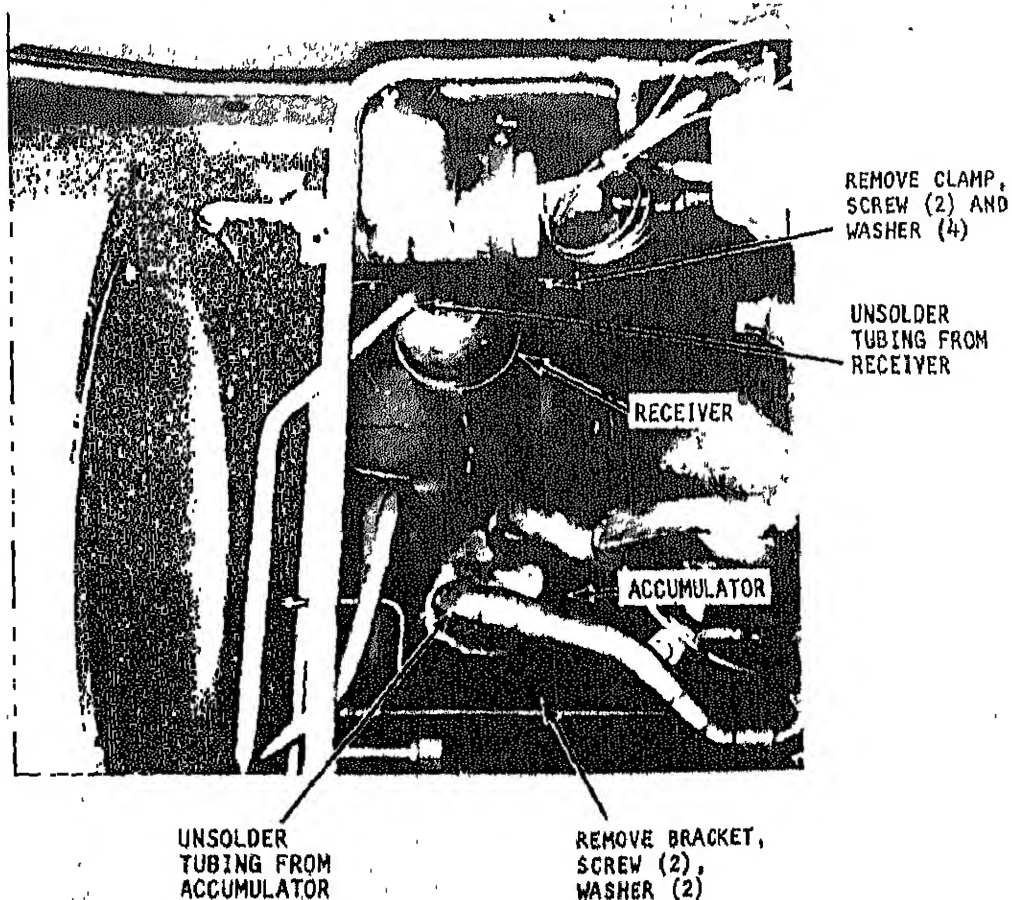

Figure 5-8. Receiver and accumulator, removal and installation
(4) Refer to figure 5-8 and remove receiver mounting bracket.
(5) Unsolder receiver from refrigeration system tubing.
(1) Refer to figure 5-8 and mount receiver on compartment wall.
(4) Refer to figure 5-8 and unsolder system tubing from accumulator.
(5) Remove two screws and washers holding accumulator bracket. Remove accumulator.
(6) Remove nut to separate accumulator from bracket.